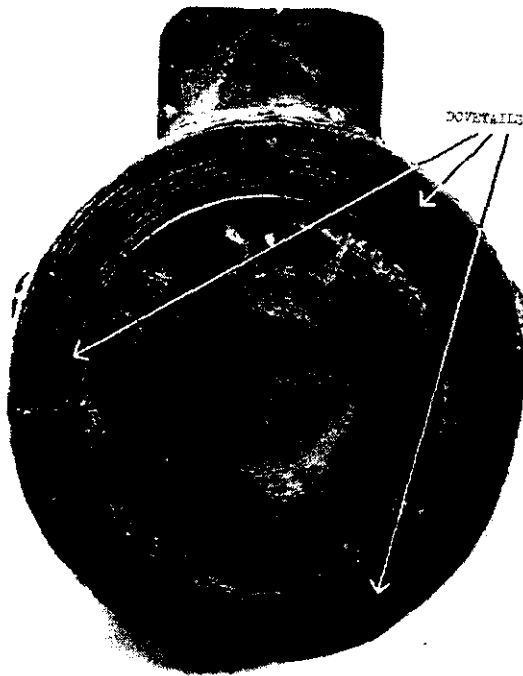

FIG. 1
- (a) By cutting three dovetails across the seat as shown in FIG. 1.